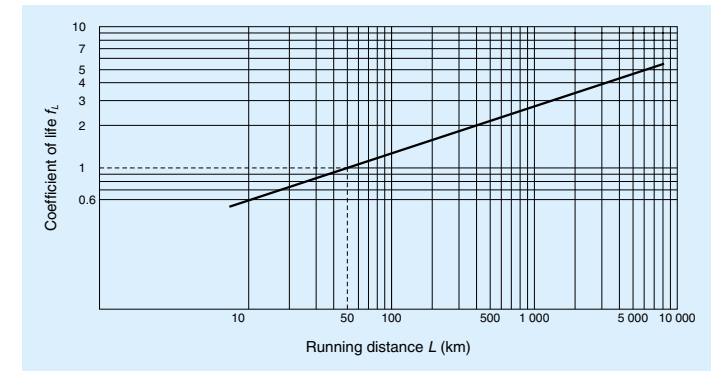

Fig. III-1-5 Relationship between life factor and running distance
- P: Radial load (N)
- f_L : Life factor (Refer to Fig. III-1-5)